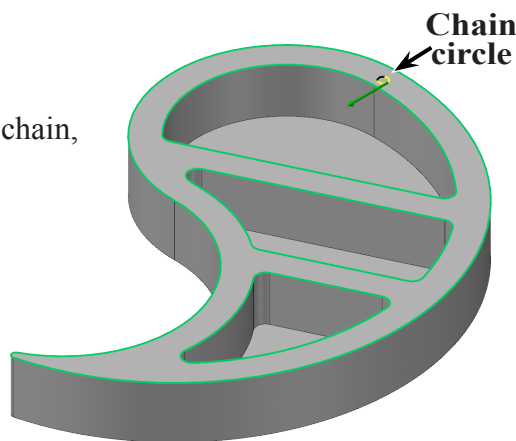

Fig. 44
Step 2. Click **Pin hole (magenta)** to chain, Fig. 44.